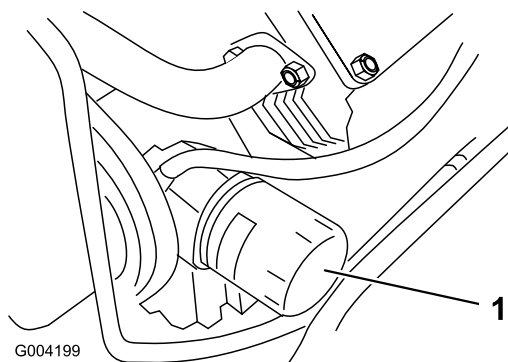

Figure 30
- Remove the old filter (Figure 30) and wipe the surface of the filter adapter gasket.